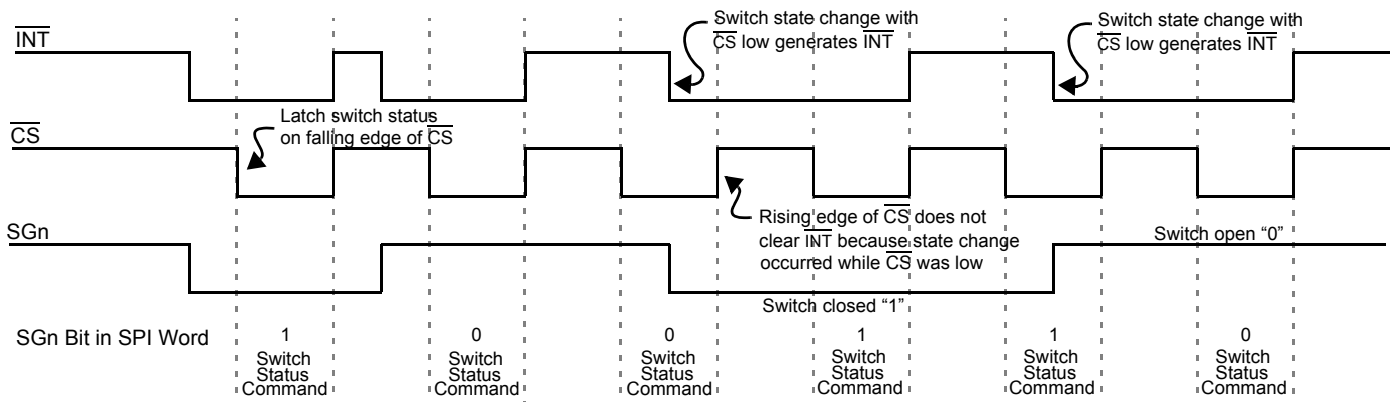

Figure 4. Normal Mode Interrupt Operation
2. $\overline{\text{INT}}$ pin is reset to logic [1], except when additional switch changes occur during CS low. (See Figure 4 on page 8.)
Figure 4, page 8, is a graphical description of the device operation in Normal mode. Switch states are latched into the input register on the falling edge of $\overline{CS}$. The $\overline{INT}$ to the MCU is cleared on the rising edge of $\overline{CS}$. However, $\overline{INT}$ will not clear on rising edge of $\overline{CS}$ if a switch has closed during SPI communication ($\overline{CS}$ low). This prevents switch states from being missed by the MCU.